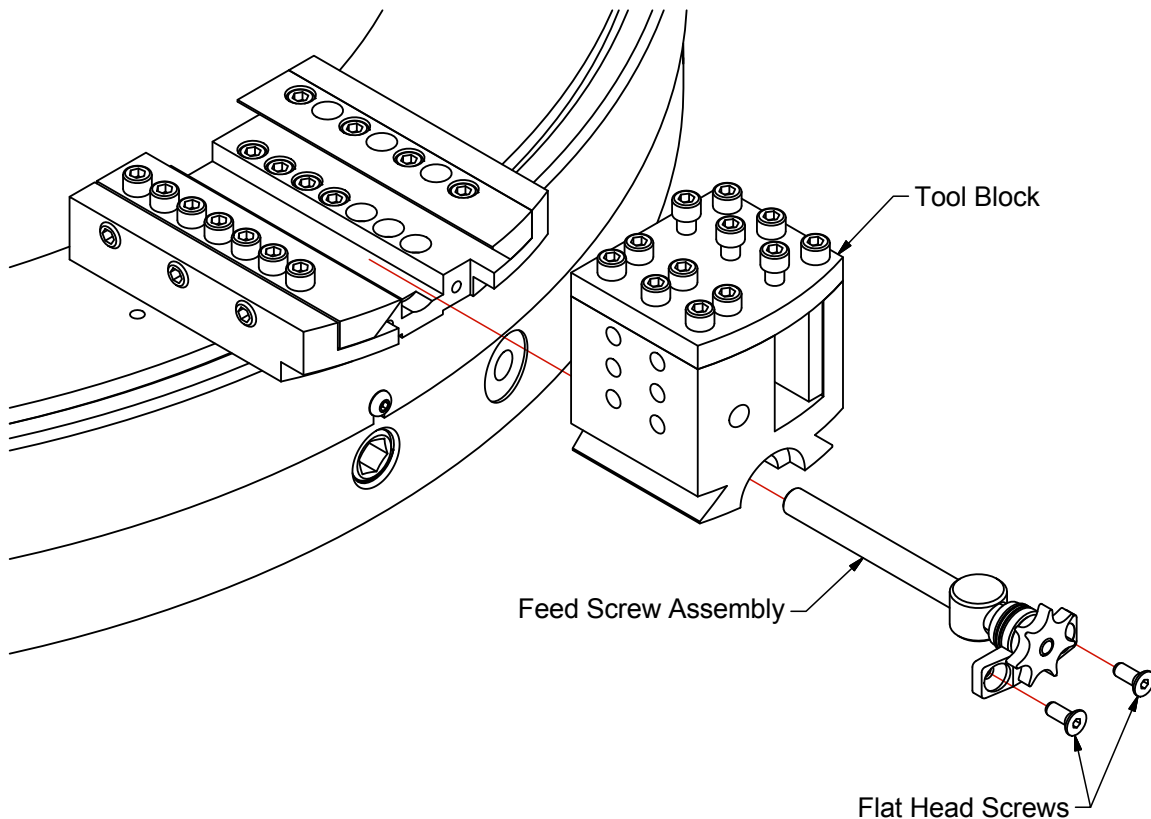

Figure 3-1 - Remove Feed Screw and Tool Block
1. Use a starwheel wrench to back the tool block fully away from the clamshell center. Remove the two flat head screws which hold the tool block and feed screw on the slide. Pull the tool block and feed screw assembly out of the slide. See Figure 3-1.